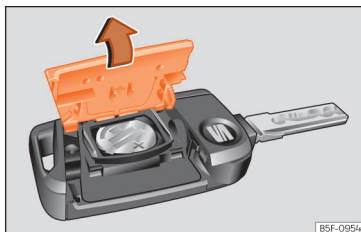

Fig. 122 Vehicle key: opening the battery compartment.
- Remove the cover from the back of the vehicle key **»** **Fig. 122** in the direction of the arrow **»** **⚠**.
- Fit the cover as shown **»** **Fig. 122**, pressing it onto the vehicle key casing in the opposite direction to that shown by the arrow until it clicks into place.